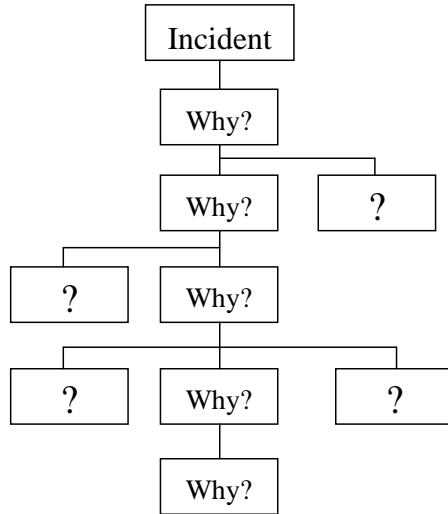

Figure 3: Graphical Example of the Five Why Method
2. Investigate a failure by simply asking and answering the question "Why?" This can be done graphically as shown in Figure 3, or it can be done by writing out the questions and answers. **(Don't do it in your head!)**